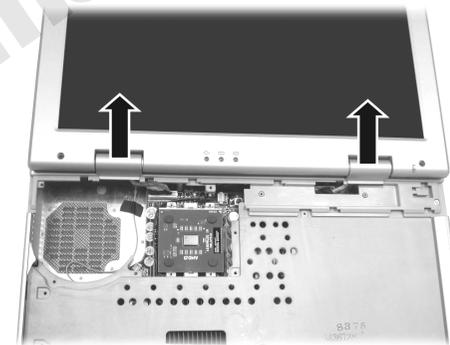

Figure 2-17 Remove the LCD hinge covers
5. Remove the two hinge covers. (Figure 2-17)